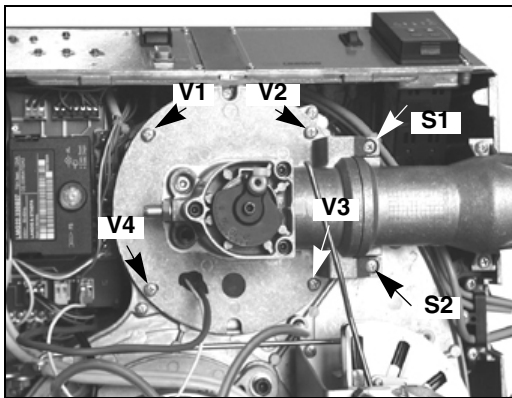

Fig. 40
- Remove, check and clean the combustion head (Fig. 40 on).
- 1 Remove the 4 screws V1, V2, V3, V4 and the couple of screws S1 and S2 (Fig. 40).